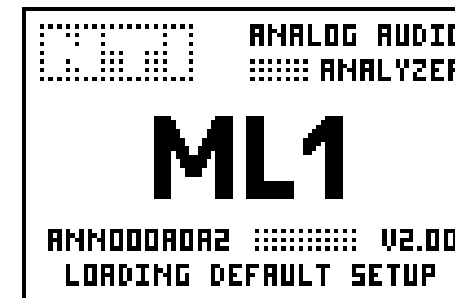

Fig 26 Start Up Screen Loading Default Setup
- The below screenshot, Fig 26, shall appear on the display, stating on the bottom line LOADING DEFAULT SETUP.